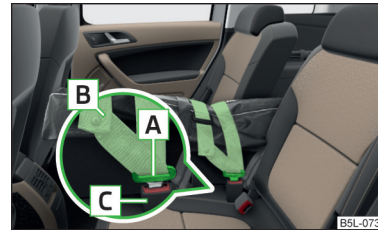

Fig. 99
- Insert the lock tongues **A** » Fig. 99 in the belt locks of the rear middle seat belt **C**, first on the one side and then on the other side.